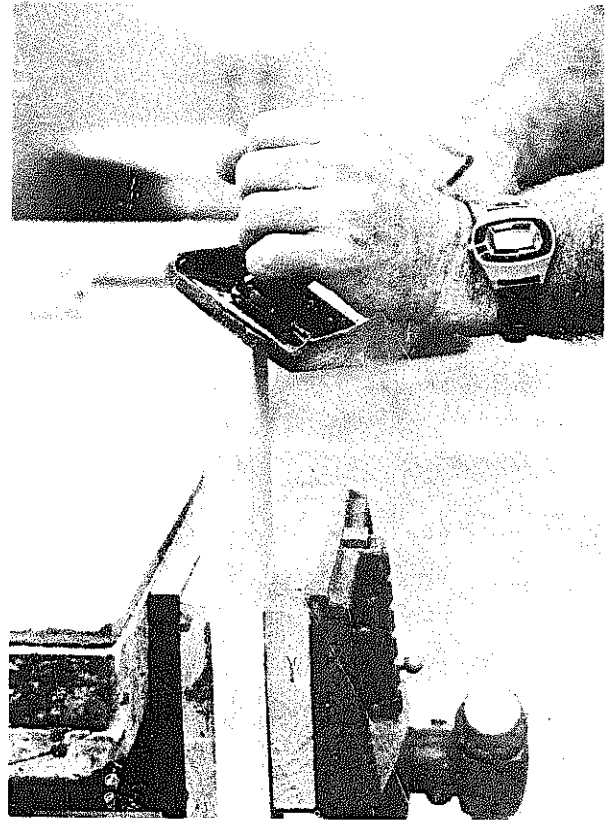

Fig. 8-45 Chamfering an end.
- b. Clamp the work in a vise as shown in figure 8-45.